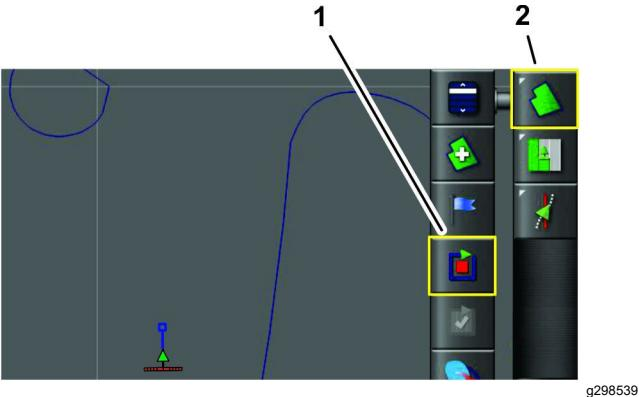

Figure 41
3. Press the FIELD MENU icon, and press the RECORD FIELD BOUNDARY icon (Figure 41).